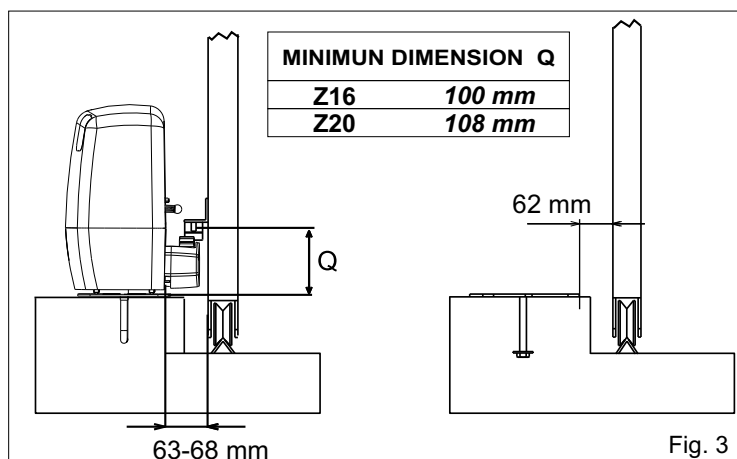
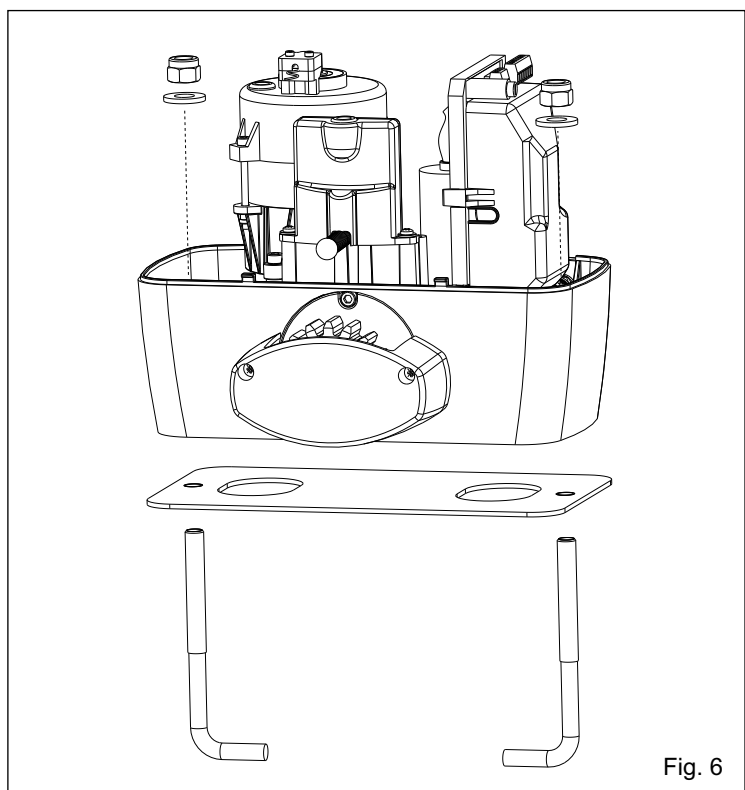

Fig. 3
Fig. 6
2.3. Before cementing the plate, make sure that it's perfectly leveled and that the distance of 63-68 mm as shown in Fig. 3 is respected.
4.2. Fix the motor on the foundation plate with the 2 included nuts, adjusting the side position (Fig. 6) so to respect the shown quota in (Fig. 3).